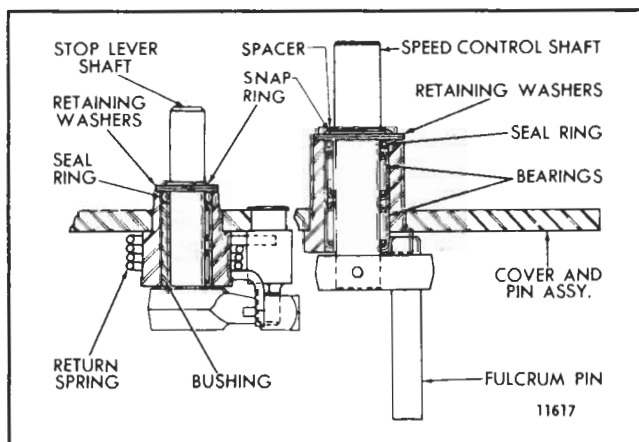

Fig. 4 - Cross Section of Governor Cover
1. Disassemble the governor cover (Fig. 4) as follows: